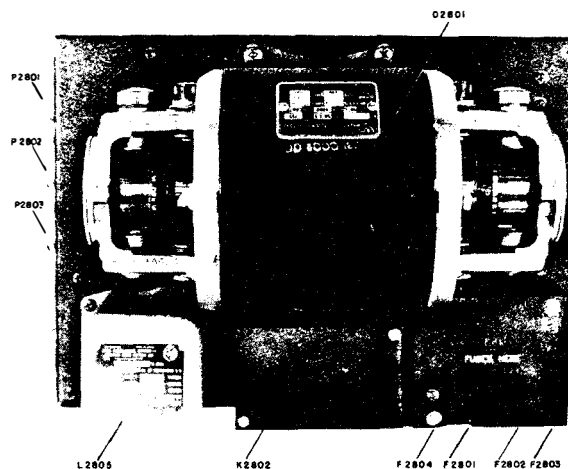

Figure 1-8 Single Dynamotor Power Unit Type -211330-B. Top View
c. The Type CKP-211330-B Single Machine Dynamotor Power Unit (figure 1-8) consists of a multiple winding dynamotor capable of operating from either a 12v or a 24v d-c source simply by changing the position of a plug located within the unit chassis.